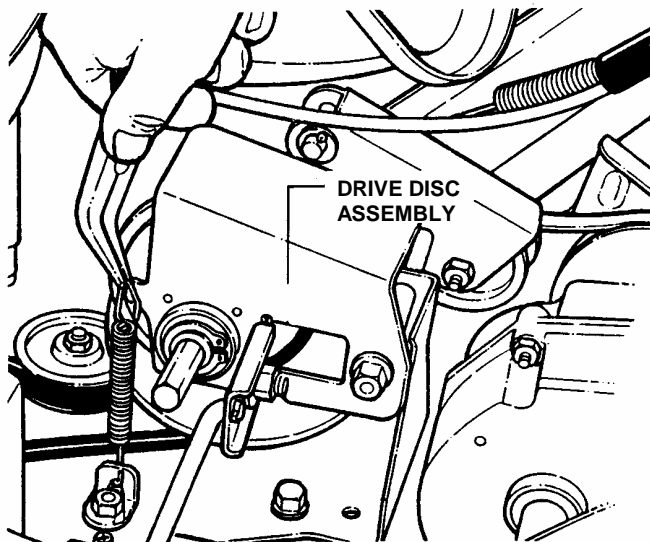

FIGURE 4.12
2. Using needle nose pliers, unhook the drive spring and slide the driven disc assembly off the hex shaft. See Figure 4.12.